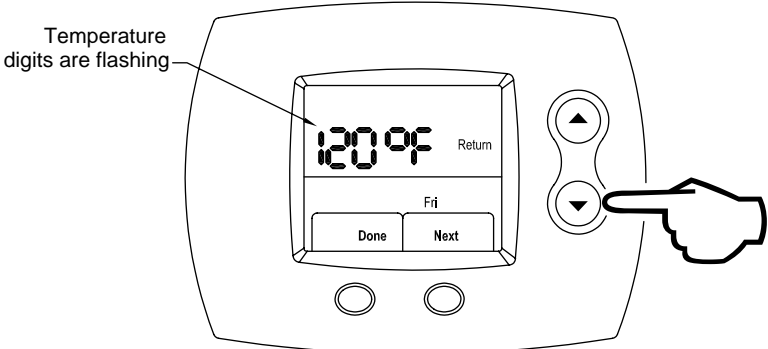

Figure 137
Step 20: Using the **UP** (increase water temperature) or **DOWN** (decrease water temperature) buttons, select the Return period desired water temperature. This is shown in Figure 137.